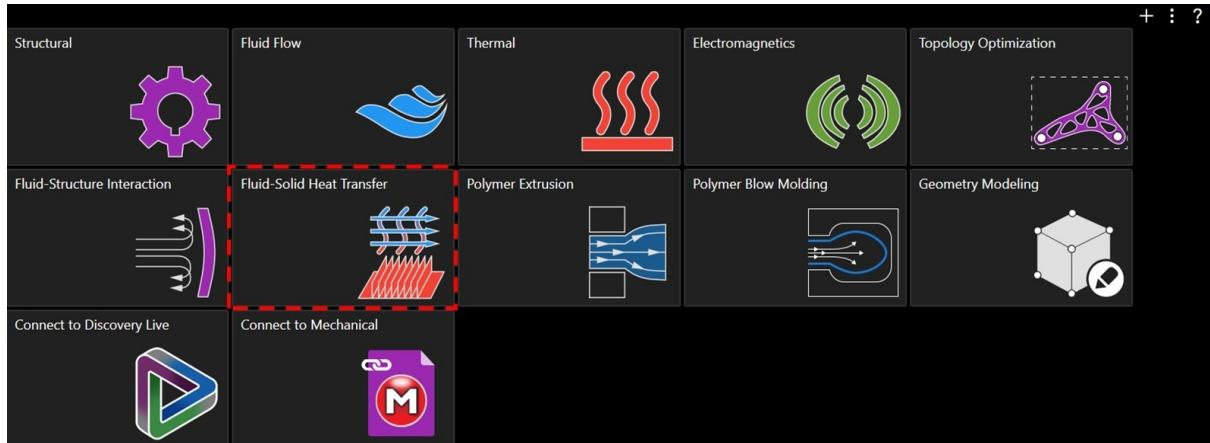

Figure 2.1:
1. Open the ANSYS AIM (or Discovery AIM) Software and Select the Fluid-Solid Heat Transfer Card to start the Simulation Set-Up as shown in Fig. 2.1. This example can be found with a file name of “Example_AIM.wbpj.”